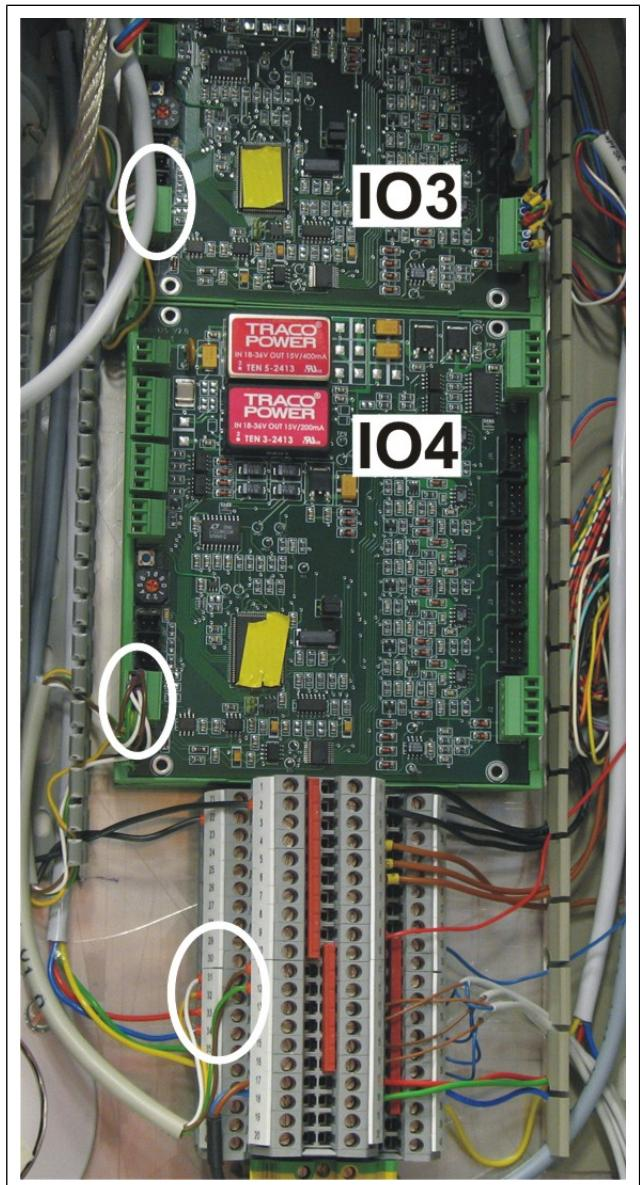

Fig. 6. Connections to IO board.
4. A separate cable was delivered with the Brightness cell; connect it to board IO4 pin J4, and to terminal strip P2, 11 & 12 (+) and P1, 31 & 32 (-) (Fig. 6).